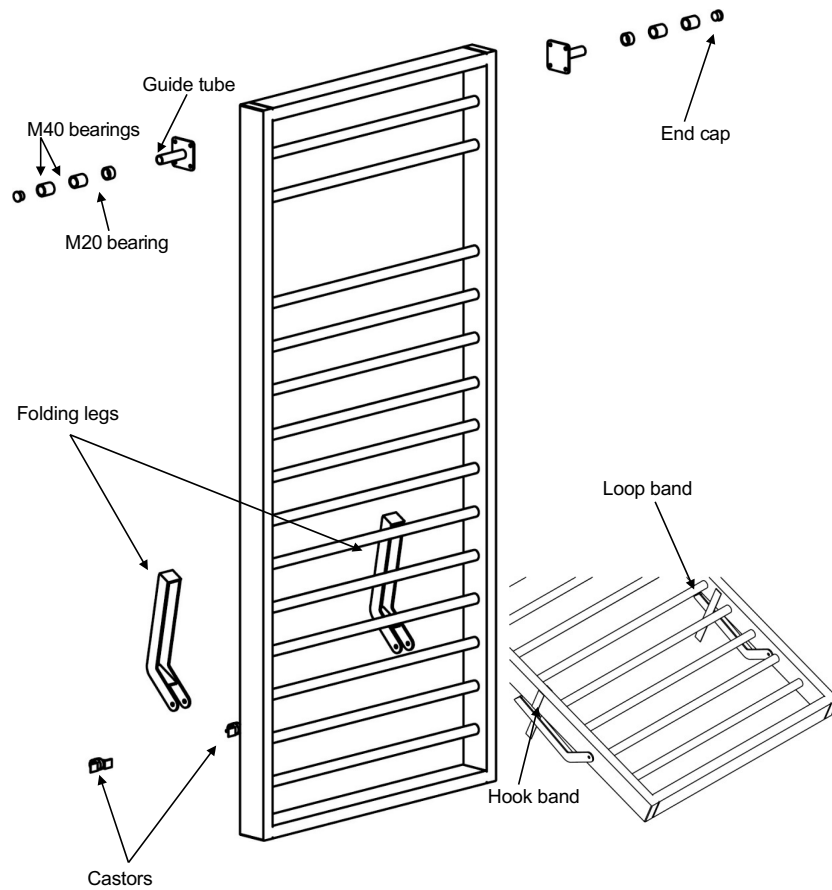

Figure 5: Assembling the wall bar
To secure the legs when folded, attach the hook band ⑧ to the outside of the wall bar sides and the loop band ⑨ to the inside (see figure 5).
With the frame on the wall and the wall bars prepared, the wall bar section can now be attached. To do this, insert the handgrips ① into the frame's two holes at the top. Then place the bearings on the guide tube as shown in figure 5 and seal the tube with the end caps. The guide tubes can now be slotted between the frame's guide rails from the top.